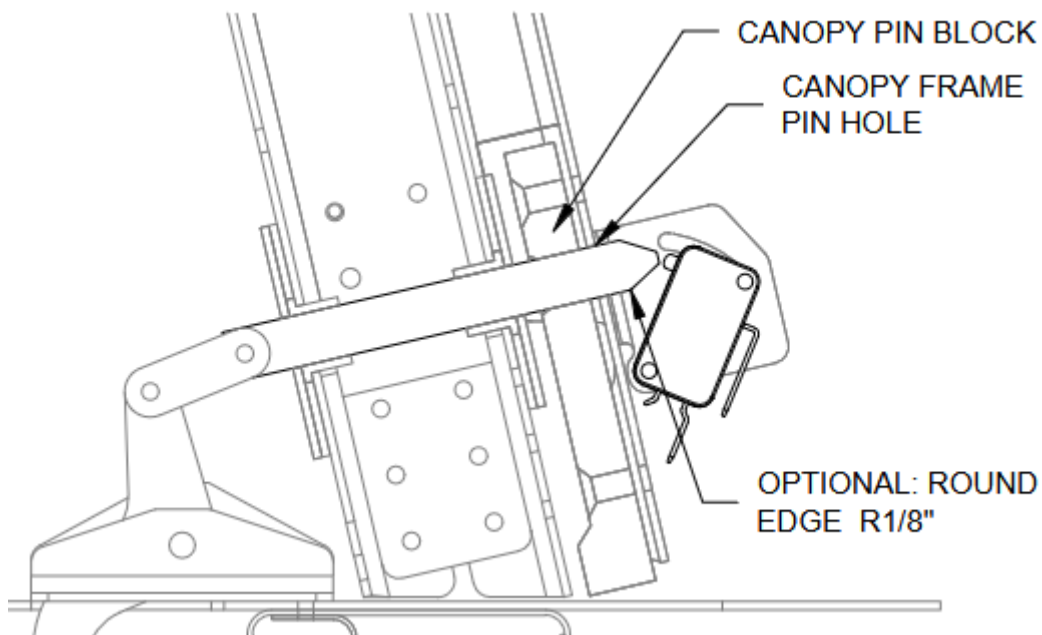

FIGURE 14: CANOPY PIN HOLE ALLIGNMENT
Step 14: Drill out the Canopy Frame Pin Hole (See Figure 14) to .4375" (7/16").
The operation of the Canopy pins will be smooth and without resistance when the holes are properly aligned. See Figure 14.